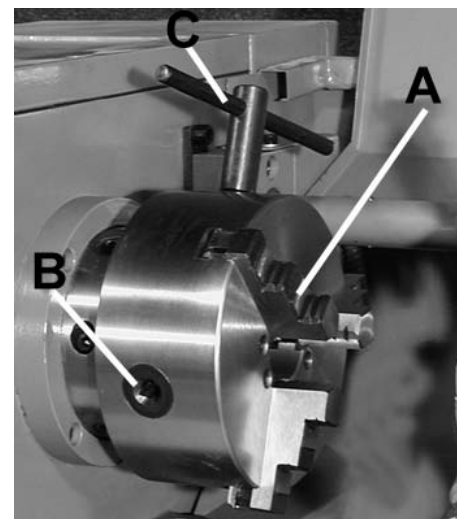

FIGURE 9
Chuck jaws (A) Fig.9 can be opened or closed by using the camlock key in the jaw adjustment cams (B). Turning the camlock key (C) clockwise will close the jaw opening and counterclockwise will open the jaw opening.